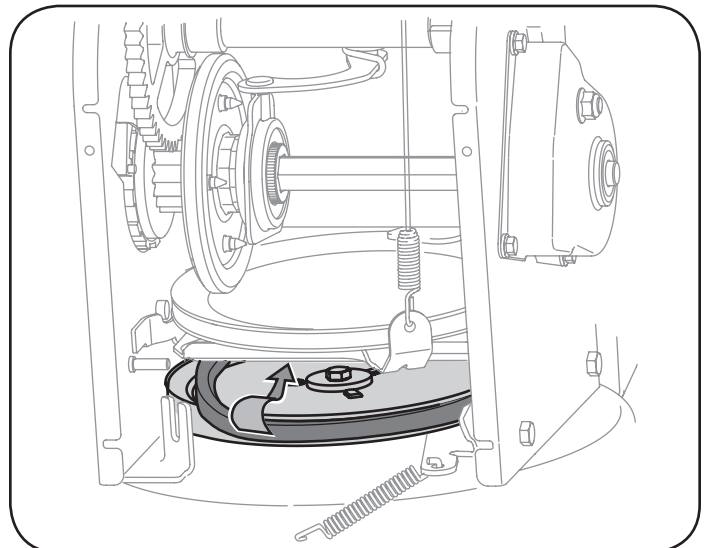

Figure 32
8. Remove the belt from around the auger pulley, and slip the belt between the support bracket and the auger pulley. See Figure 32.